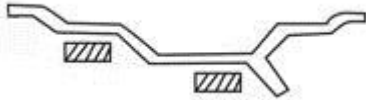

Fig. 13
4.4.4 The ALUS balance mode, (shown in Fig. 13)